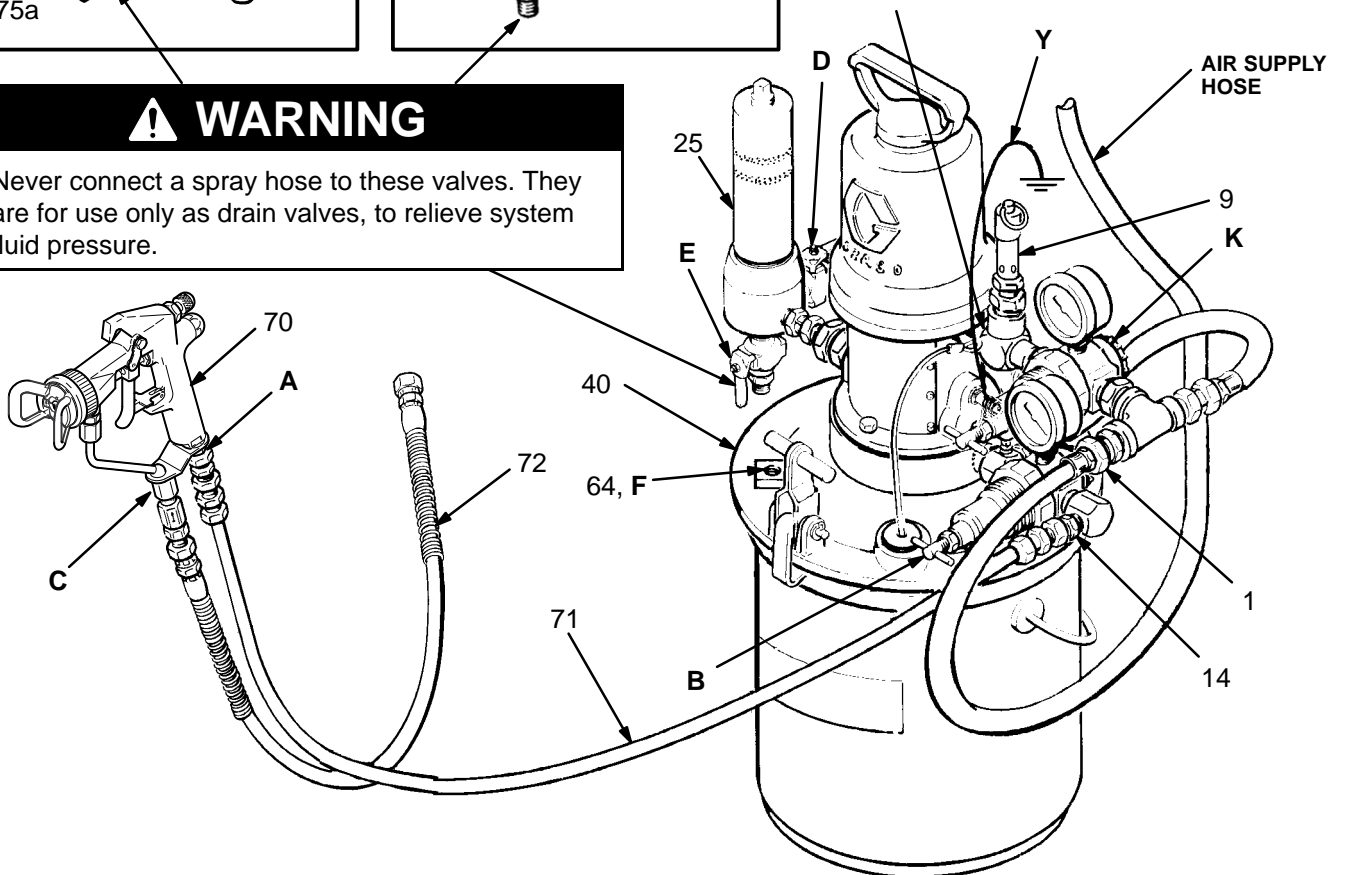

Fig. 2
All Models (See Fig 2)
Assembling Sprayer Model 231–015 (See Fig 2)
Assembling Sprayer Model 230–978 (See Fig 2)
Assemble the fluid regulation kit (75) as shown in Detail A and Detail B of Fig 2. Install the regulator mounting bracket (75k) on the regulator (75f), using the two screws (75p) and lockwashers (75q). Mount the assembled regulator kit on the pail cover with the capscrew (75l), washer (75m) and nut (75n). Connect the regulator hose (75h) between the nipple (75b) at the regulator inlet (G) and the ball valve (D) mounted in the side outlet of the fluid filter (25).